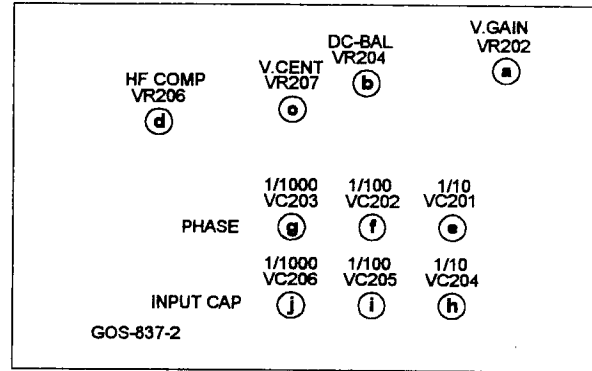

Fig. 19. Vertical circuit board. for each of the vertical
2. Adjust the DC BAL potentiometers (pots) VR201 (see Fig. 1 (14)) and VR204 (see Fig. 19 (b)) until the trace does not shift when the VERT.VAR. control is turned.
2. Adjust HF COMP pot VR206 (see Fig. 19 (d)) so that the display has flat extremes as shown in Fig. 15.
4. Adjust the V.GAIN pot VR202 (see Fig. 19 (a)) so that the observed waveform is exactly 5 divisions high.
2. Adjust the internal V.CENT pot VR207 (see Fig. 19 (c)) to center the trace on the screen.
1. Six frequency compensation trimmers are in the scope, two for each of the vertical deflection ranges 5V/div, 0.5V/div and 50mV/div. VC201, VC202 and VC203 are for direct input compensation (1:1) and VC204, VC205 and VC206 are for compensation using the 10:1 attenuator input probe. (see Fig. 19) Optimum compensation is obtained when the VERT. VAR. control is fully clockwise in the CAL position. Since compensation of the 3 Vertical ranges is necessary, square waves of different amplitudes will be necessary. The square waves should be at a frequency of 1kHz and be of good quality with flat amplitude extremes.
3. Adjust VC201 (see Fig. 19 (e)) for flat extremes on the square wave. See Fig. 15 for representative waveforms.
5. Adjust VC202 (Fig. 19 (f)) for flat extremes on the square wave. see Fig. 15 for representative waveforms.
7. Adjust VC203 (Fig. 19 (g)) for flat extremes on the square wave. See Fig. 15 for representative waveforms.
8. For 10:1 compensation use the 10:1 attenuator probe and repeat steps 2 through 7 above multiplying the required square wave input amplitude by 10 and adjusting VC204 (Fig. 19 (h)) for step 3, VC205 (Fig. 19 (I)) for step 5 and VC206 (Fig. 19 (j)) for step 7.